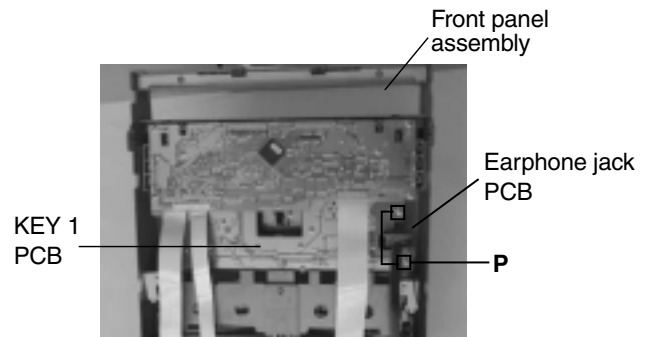

Fig.20
■ Removing the earphone jack PCB (See Fig.20)
■ Removing the switch PCB and sound mode and CD function switch PCB (See Fig.20 to 23)
4. Remove eleven screws **R** retaining the switch (key 1) PCB.(Fig.20)